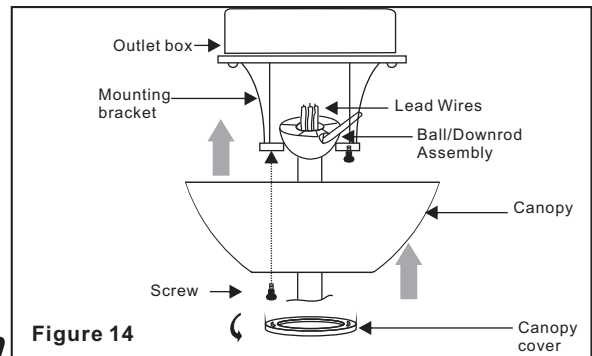

Figure 14
- Step 3. Align the canopy up to ceiling and over the loose screw. Place the canopy into key hole and rotate canopy clockwise. (Figure 14)
- Step 5. Place the canopy cover to the canopy and rotate canopy cover clockwise until it is locked into right position. (Figure 14)